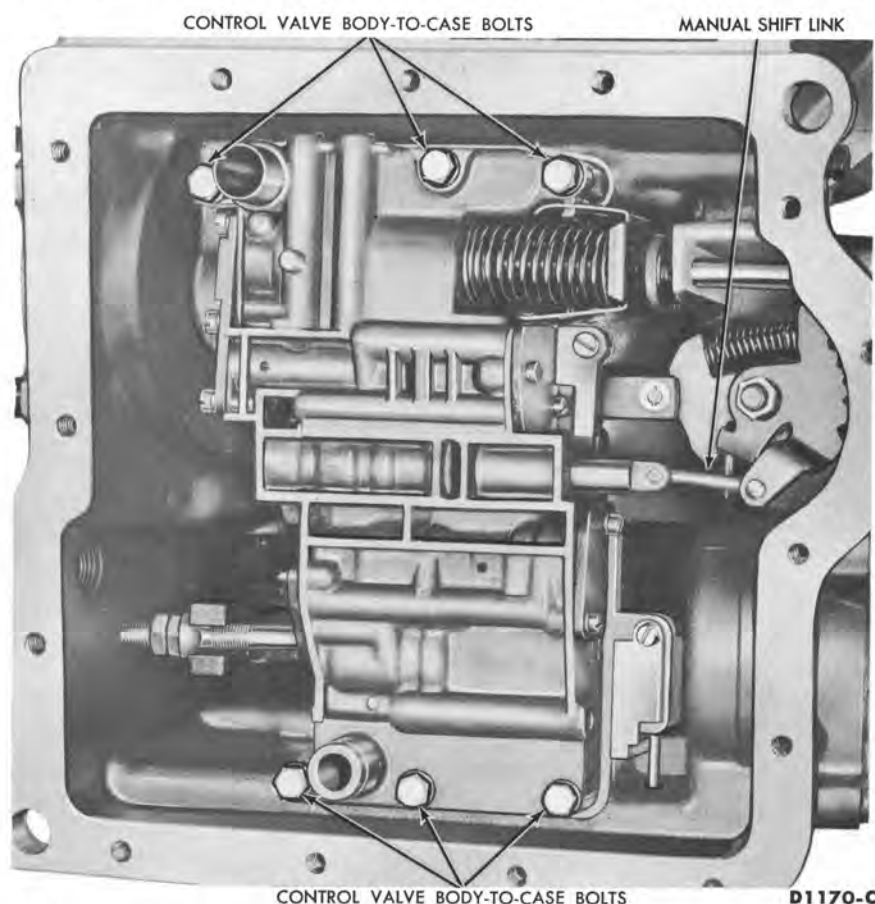

FIG. 1—Typical Control Valve Mounted on Transmission Case
5. Remove the 6 bolts that attach the control valve body to the transmission case (Fig. 1).